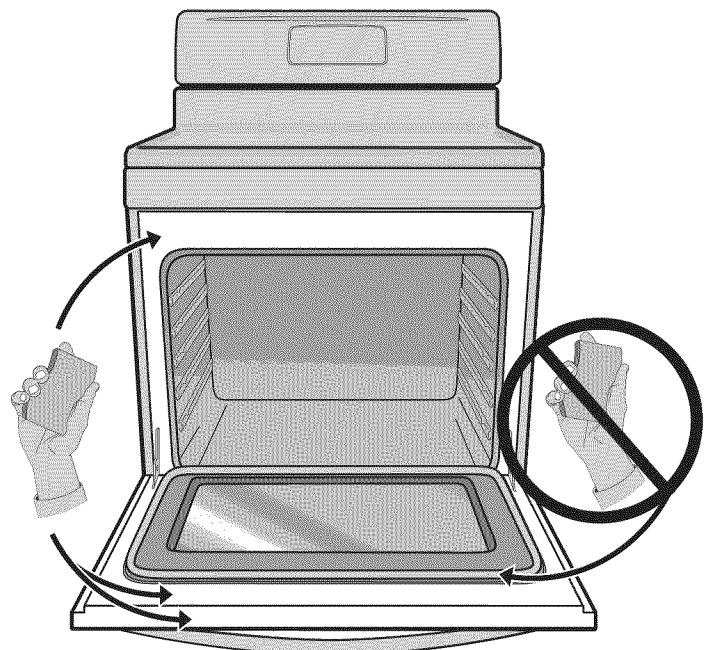

Fig. 1
- Clean any soil from the oven frame, the door liner outside the oven door gasket and the small area at the front center of the oven bottom (See Fig. 1). These areas heat sufficiently to burn soil on. Clean using soap and water prior to starting Self Clean (See Fig. 1).
- **DO NOT clean the oven door gasket** (See Fig. 1). The woven material of the oven door gasket is essential for a good seal. Care should be taken not to rub, damage or remove the gasket. **DO NOT use any cleaning materials on the oven door gasket.** Doing so could cause damage to the door gasket.